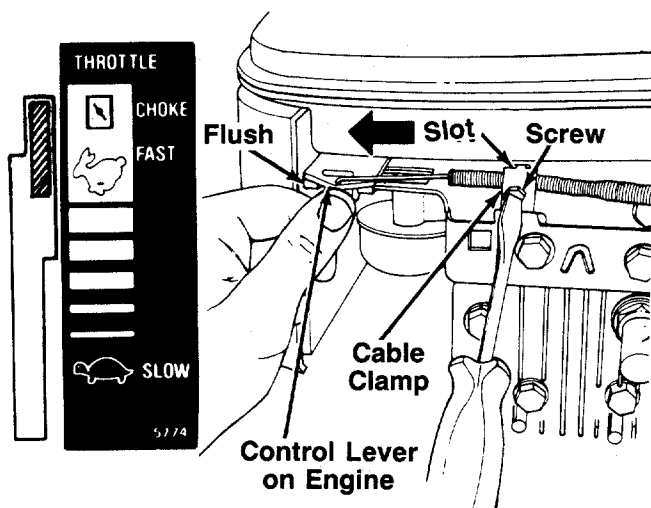

FIGURE 8B.—Model 506R
1. Push the throttle control lever on the handle all the way forward to CHOKE position. See figure 8B.
2. The throttle control cable is attached to the upper handle. Route the throttle control cable under the lower handle and inside the handle mounting bracket. Hook the "Z" end of the throttle control cable into the hole in the control lever on the engine. See figure 8B.
3. Using a 5/16" wrench or nutdriver, remove the screw on the cable clamp shown in figure 8B. Slip the control cable under the clamp. Replace the screw (cable should be above the screw), but do not tighten (cable must still move freely beneath the clamp). Make certain the tab on the cable clamp is seated into the slot on the engine.
4. Push the control lever on the engine as far toward the **outside** of the engine as it will go. The edge of the control lever should be flush with the bracket on the engine. See figure 8B. Hold the control lever in this position as you tighten the screw on the cable clamp to secure the throttle cable.